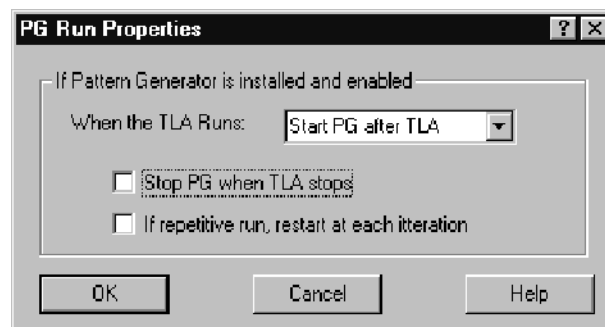

Figure 2-24: Pattern Generator Run Properties dialog box
The Pattern Generator (PG) Run Properties dialog box selections determine if the logic analyzer Run button will start and stop the pattern generator (PG) modules. Access the dialog box by clicking PG Run Properties from the System menu under the TLA application. See Figure 2-24.